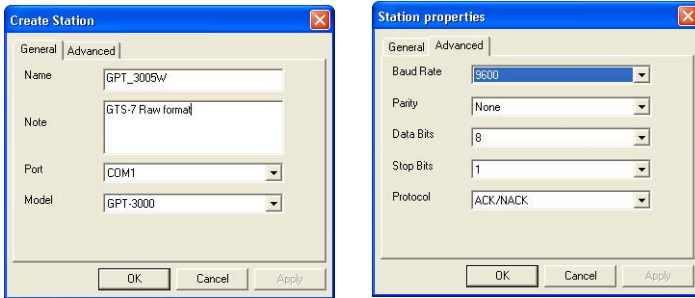

Figure 8-10. Total Station Properties
2. In the *General* tab of the *Create Station* dialog box, enter the following information and click **OK** (Figure 8-10).
- In the *Advanced* tab of the **Create Station** dialog box, enter the baud rate, parity, data bits, stop bits, and protocol used for communication with the TS (Figure 8-10).